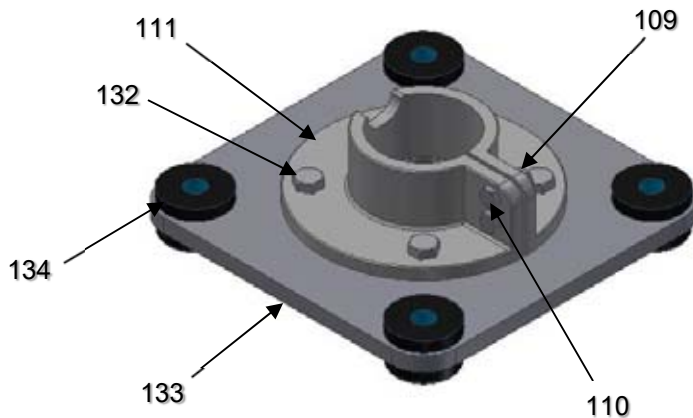
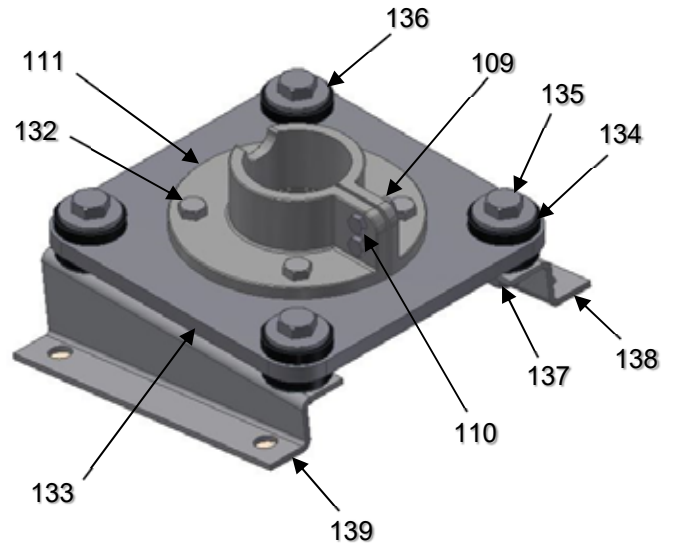

FIGURE 6
FIGURE 6A
2.7 “Q” Units – Q Plate Mounting Module – The standard “Q” Plate mounting configuration is shown in Figure 6. The Q Pedestal (111) is bolted to the Q Plate (133) with four hex head cap screws (132). There are four isolation mounts (134) in the plate. Figure 6A shows the same configuration with the angle riser option added. There is a left hand angle riser (138) and right hand angle riser (139) that make up the assembly. The risers are bolted thru the isolation mounts (134) using hex head cap screws (135), washers (136) and hex nuts (137). The angle riser option is available in 7° and 10° vertical offsets. The mixer housing module mounts in the bore of the pedestal (111) and is secured by tightening the hex head cap screws (110) and hex nuts (109). Tighten to 75 in. lbs. (8.5 N-m) maximum torque. Do not over tighten. Damage to equipment may result.